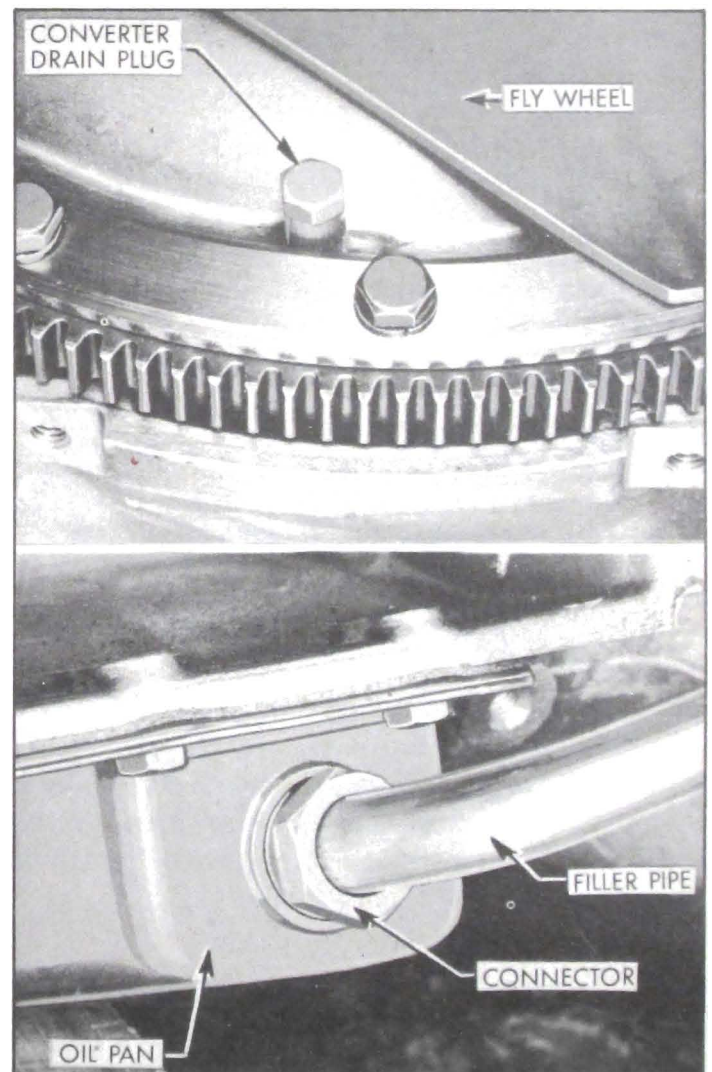

Figure 1-16—Automatic Transmission Drain Points
2. Loosen one converter drain plug, then turn converter until opposite drain plug is straight down and remove this plug to allow converter to drain completely. See figure 1-16.
3. Remove filler pipe fitting from oil pan and allow oil pan to drain completely. *Do not remove accumulator caps on Twin Turbine transmission.* See figure 1-16.
5. Put 3 quarts of specified oil (subpar. a.) in transmission. With engine idling and transmission in Parking (P) complete the refilling to bring oil level to "FULL" mark on gauge rod. When transmission oil is warmed up, the oil level should then be at "FULL" mark on gauge rod.